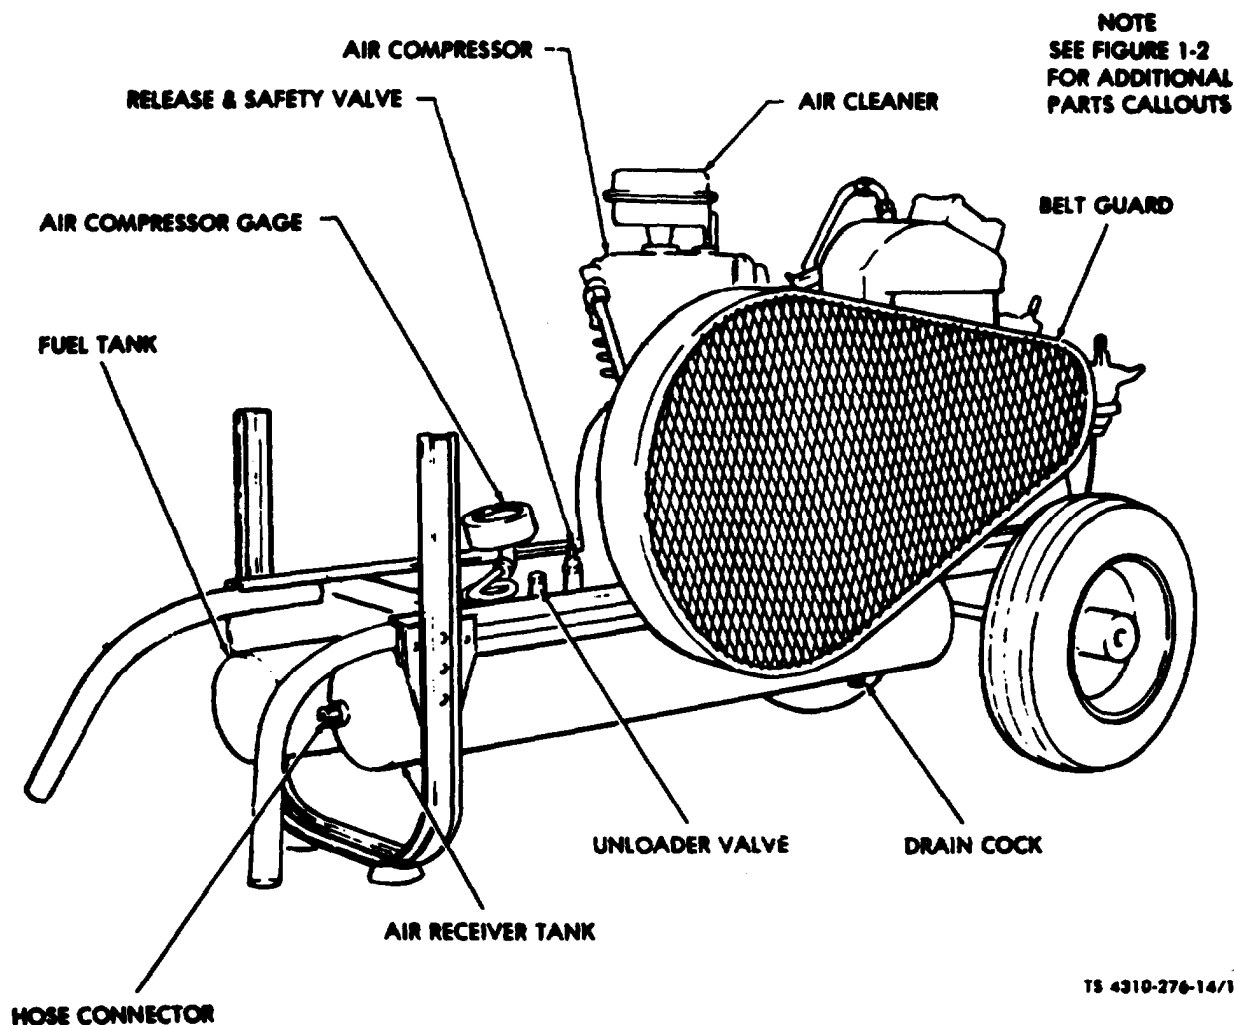

Figure 1-1. Air Compressor Assembly, Right Rear, Three-Quarter View.
a. General. The Kellogg-American Model G 311-PC Air Compressor, Serial Number range 585130 through 588000 (figs. 1-1 and 1-2), is a two-stage, reciprocating type designed to deliver 5 cfm (cubic feet per minute) of compressed air at 175 psig (pounds